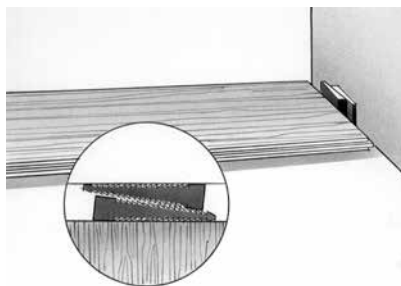

Fig. 4
5. Two tapered spacers can be used as wedges to accommodate irregular walls (Fig. 4).